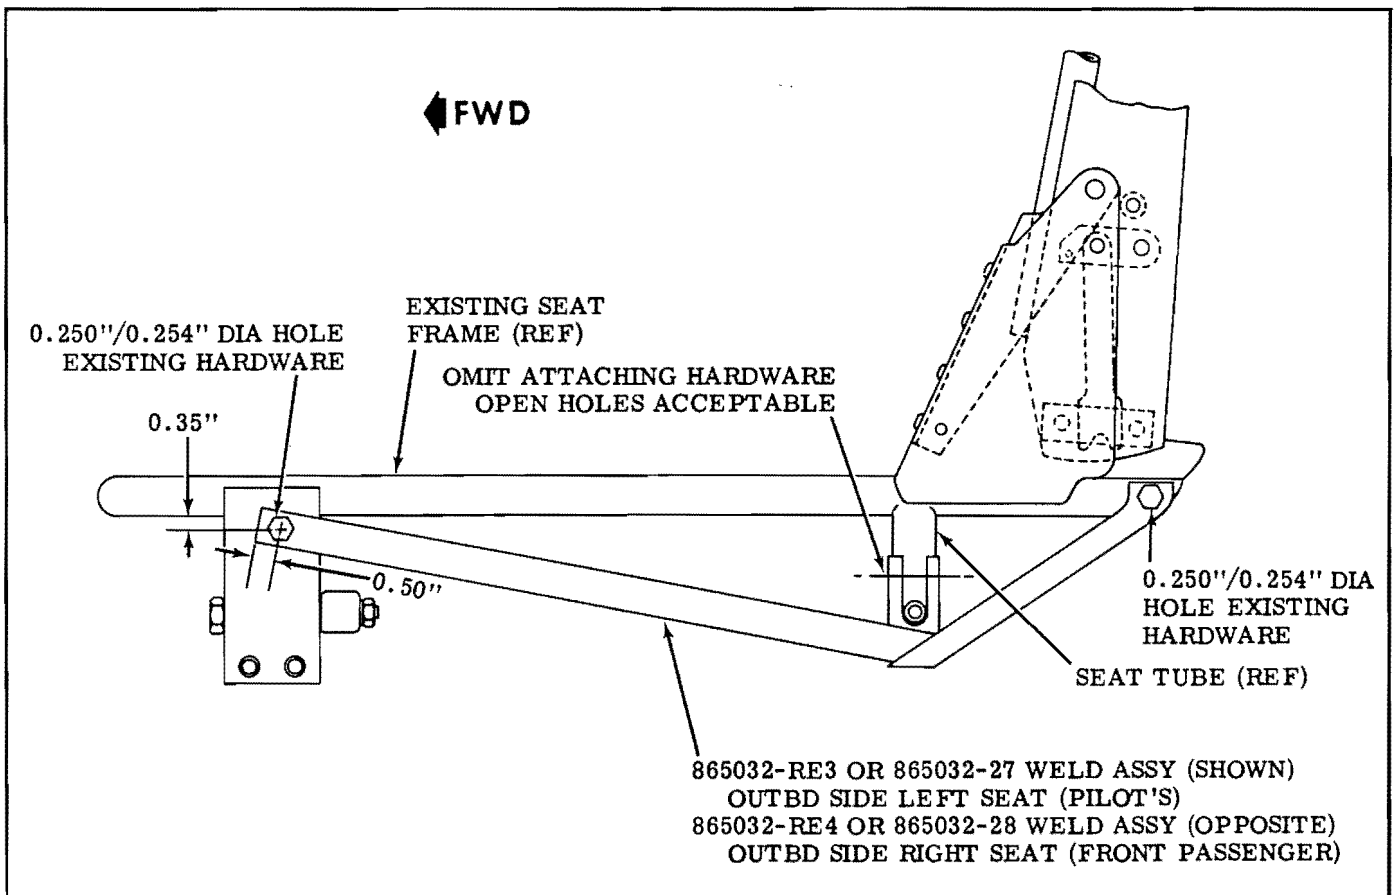

Figure 2.
3. Locate, back drill through existing holes and install 865032-RE3 or 865032-27 left weld assembly on pilot seat bottom and 865032-RE4 or 865032-28 right weld assembly on front passenger seat bottom (see Figure 2.).